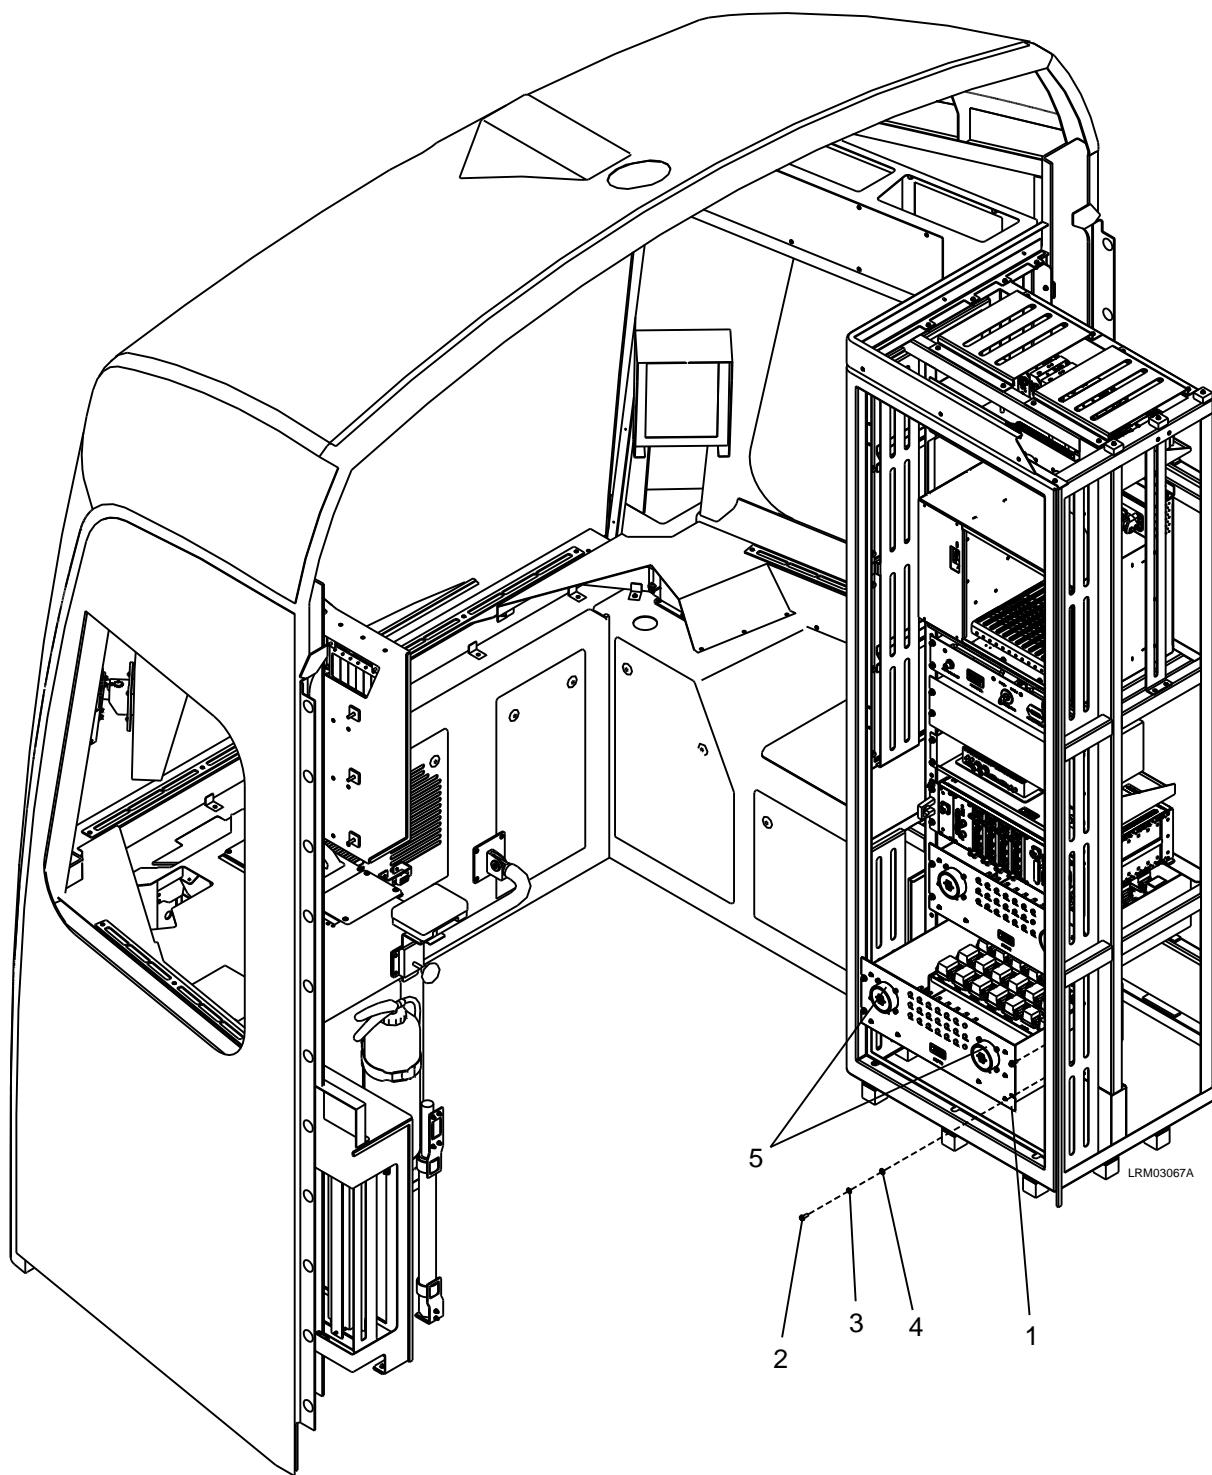

Figure 7-48: CRP7B Panel
2. Disconnect the electrical connectors (5) to the CRP7B Panel (1). See Figure 7-48.
3. Remove the four M6 x 16 screws (2), M6 lock washers (3), and M6 plain washers (4).
4. Carefully remove the CRP7B Panel (1).